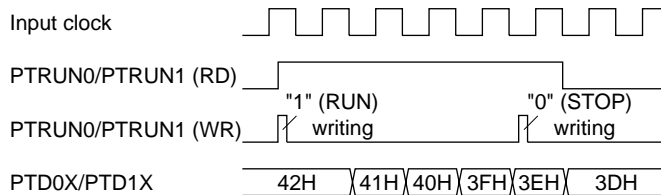

Fig. 5.2.1 Timing chart for RUN/STOP control
- (1) When reading counter data, be sure to read the low-order 4 bits (PTD00–PTD03, PTD10–PTD13) first. Furthermore, the high-order 4 bits (PTD04–PTD07, PTD14–PTD17) should be read within 0.73 msec of reading the low-order 4 bits (PTD00–PTD03, PTD10–PTD13).
- (2) The programmable timer actually enters RUN/STOP status in synchronization with the falling edge of the input clock after writing to the PTRUN0/PTRUN1 register. Consequently, when "0" is written to the PTRUN0/PTRUN1 register, the timer enters STOP status at the point where the counter is decremented (-1). The PTRUN0/PTRUN1 register maintains "1" for reading until the timer actually stops. Figure 5.2.1 shows the timing chart for the RUN/STOP control.